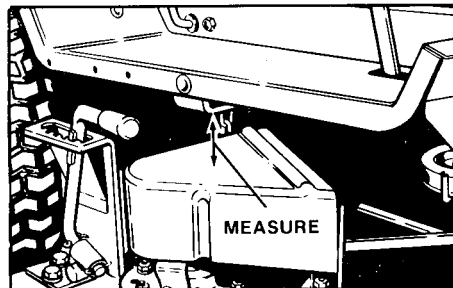

Figure 47. Measurement - 42" Mower
- Measure the distance between top of pulley cover and bottom of upstop bracket (figure 47). If small lift lever (F, figure 8) is used, the measurement should be 2". If large lift lever (B, figure 8) is used, the measurement should be 1-13/16".